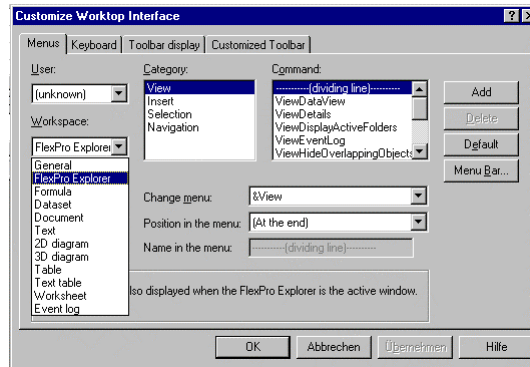

Figure III.2: The Toolbar display tab with the drop-down list Workspace: opened
This intended default setting by FlexPro applies to the *Workspace: FlexPro Explorer* as can be read in the drop-down list *Workspace:* on the left hand side of the dialog box (Fig. III.2).
*Note:* When opening the drop-down list *Workspace:*, you will find that FlexPro is divided into twelve working areas (Fig. III.2). Each is equipped with a certain portfolio of toolbars, which are opened automatically after activating the respective workspace.